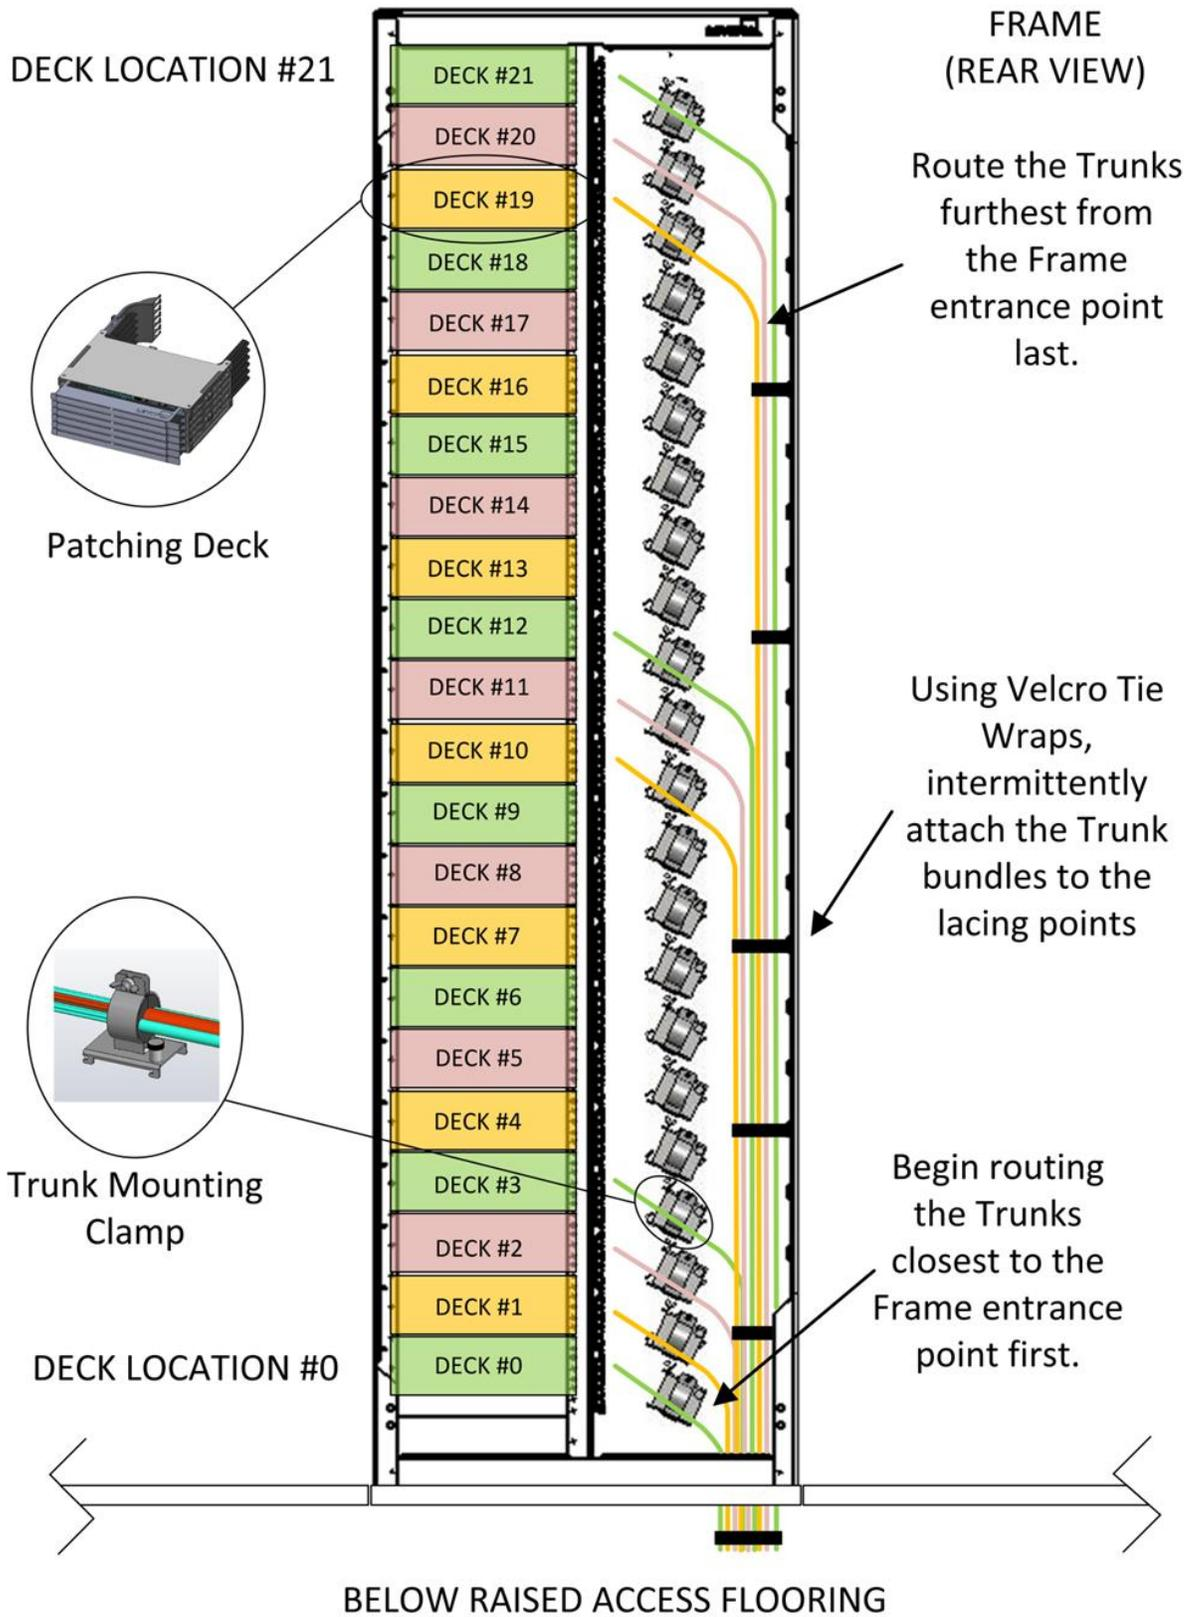
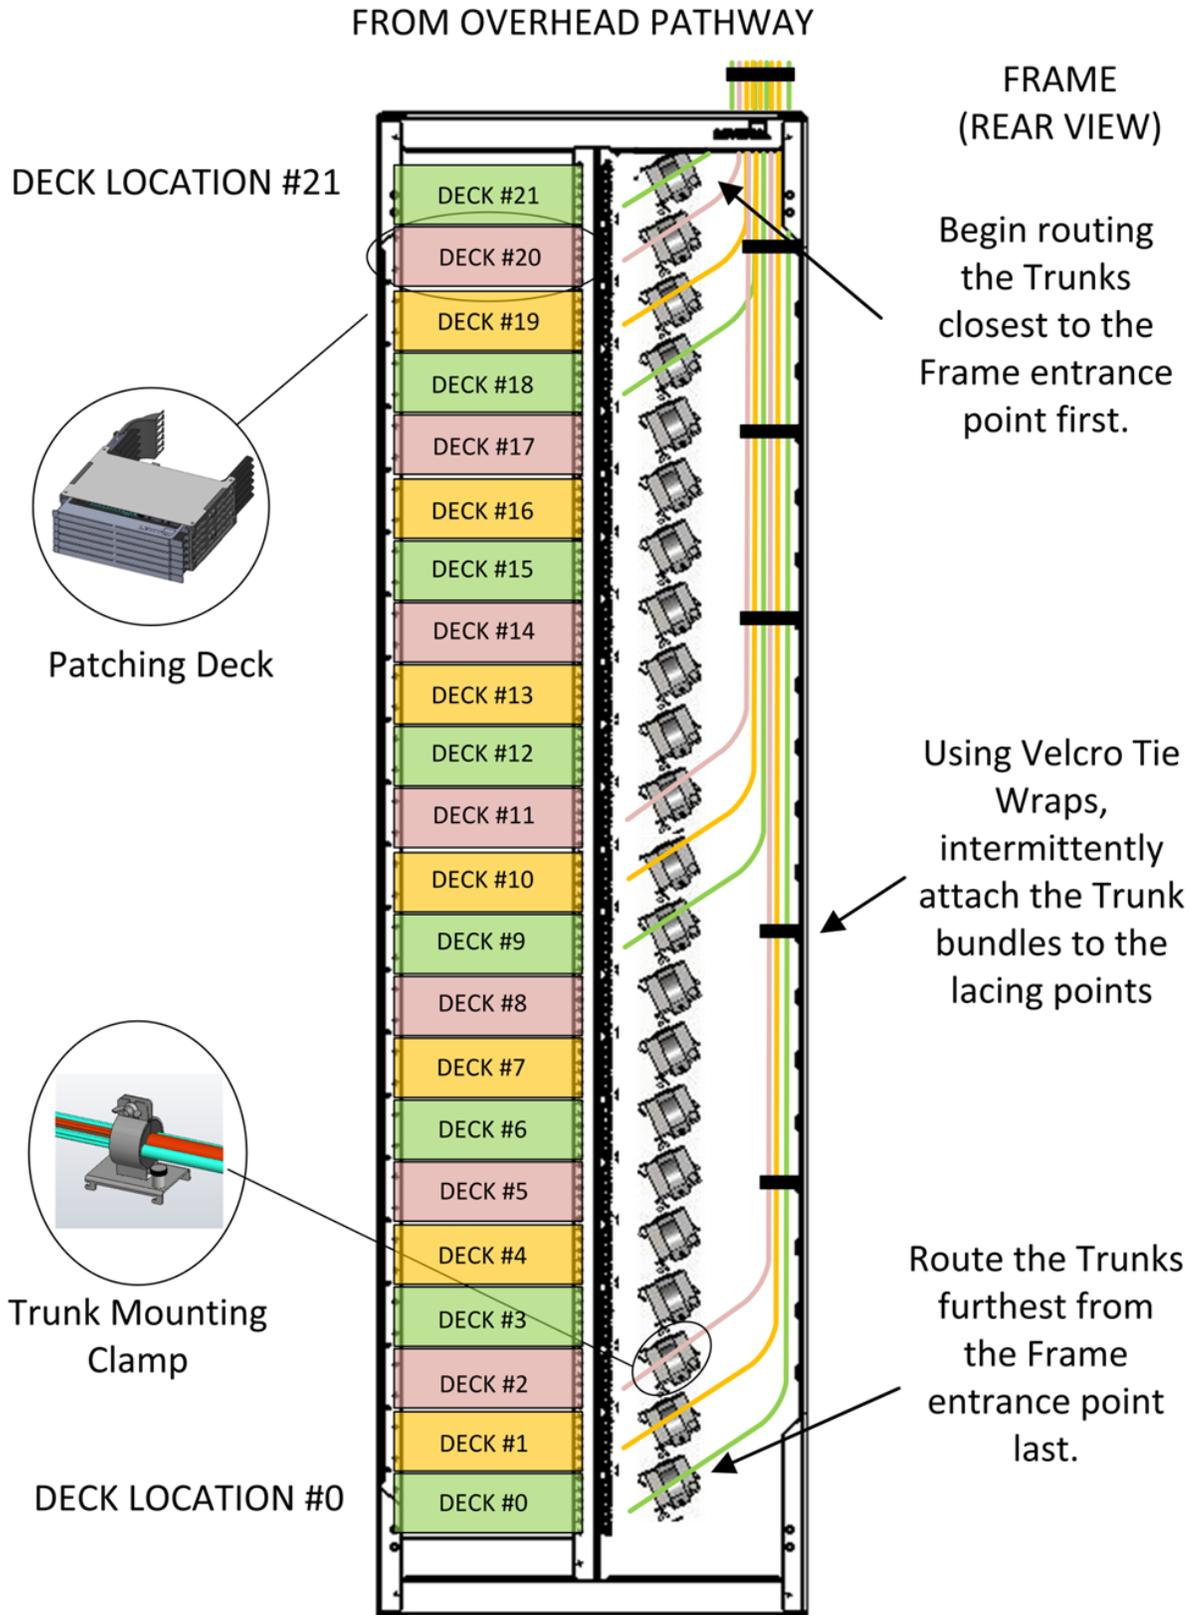

Figure 18
Figure 19
- a. The following are examples of cabling being routed from below via raised access flooring (Figure 18) and from above (Figure 19).